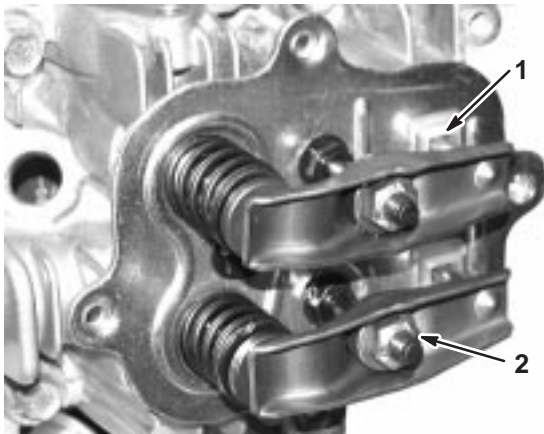

Fig. 60 – Installing Rocker Arms
5. Install rocker arm lock nut on stud and turn down until there is zero clearance between valve cap and rocker arm, Fig. 60.
6. Rotate crankshaft at least two (2) revolutions to be sure push rods operate rocker arms.